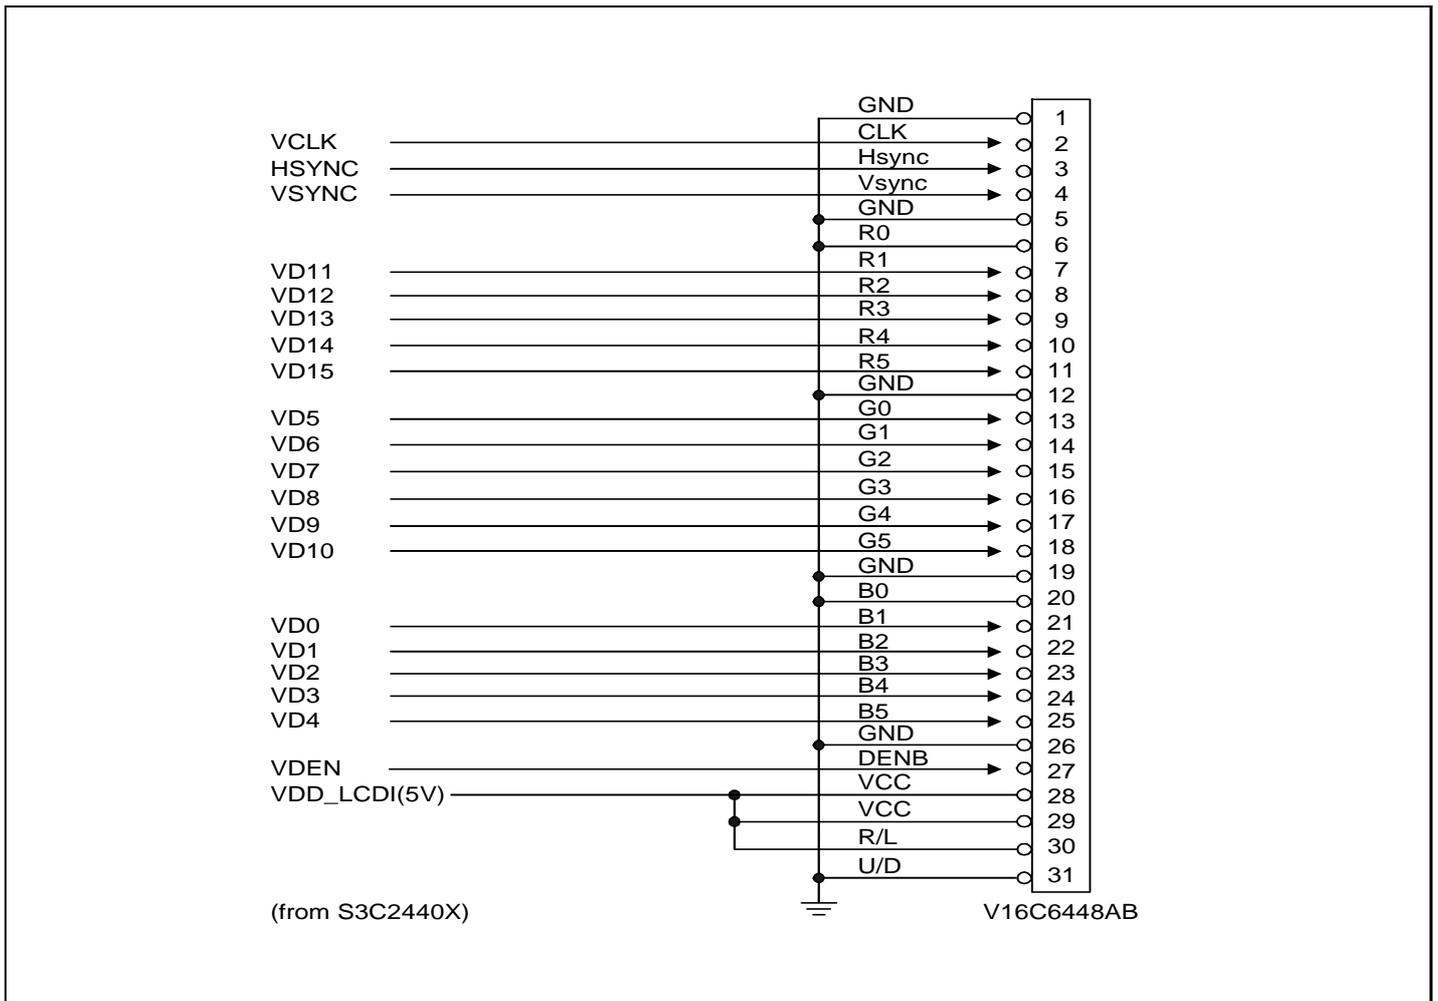

Figure 4-19. V16C6448AB Connection with S3C2440X (TFT LCD)
- V16C6448AB (640x480 TFT LCD) from PRIMEVIEW (refer to Figure 4-19)